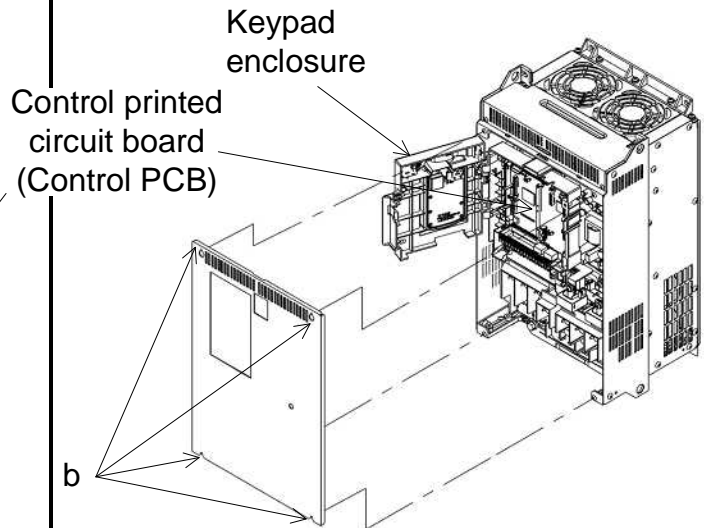

Figure 2.1-2 Removing the Front Cover
- (1) As shown in Figure 2.1-2, remove the cover mounting screws (the number of screws differs depending on the inverter capacity) on section "b" and remove the front cover.
- (2) Open the keypad enclosure.